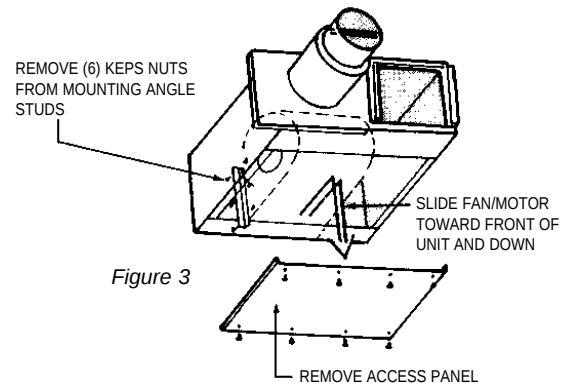

Figure 3
2. Remove keps nuts from the mounting angle studs located on either side of the fan housing. (See Figure 3)